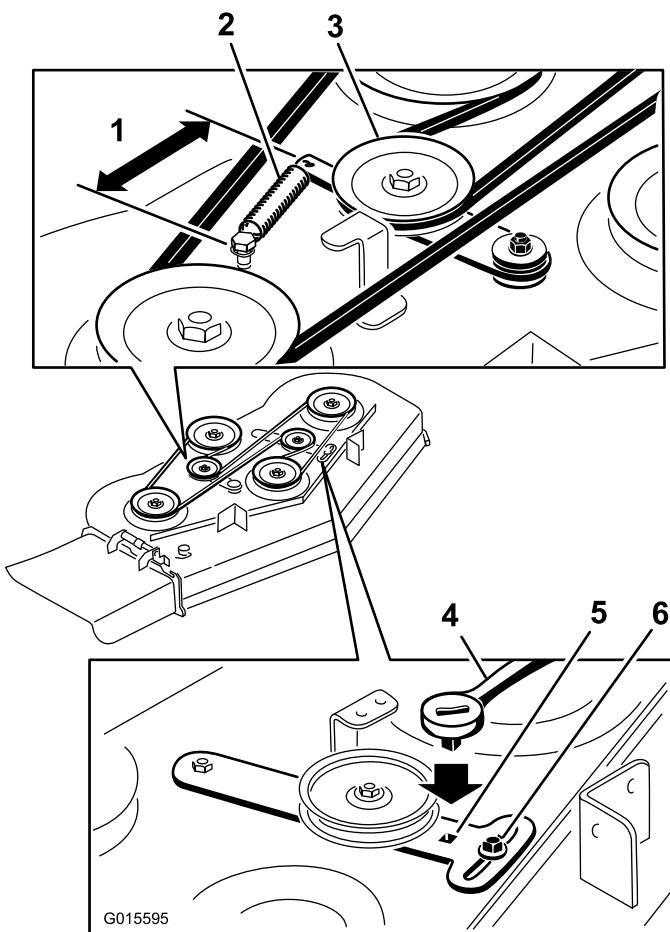
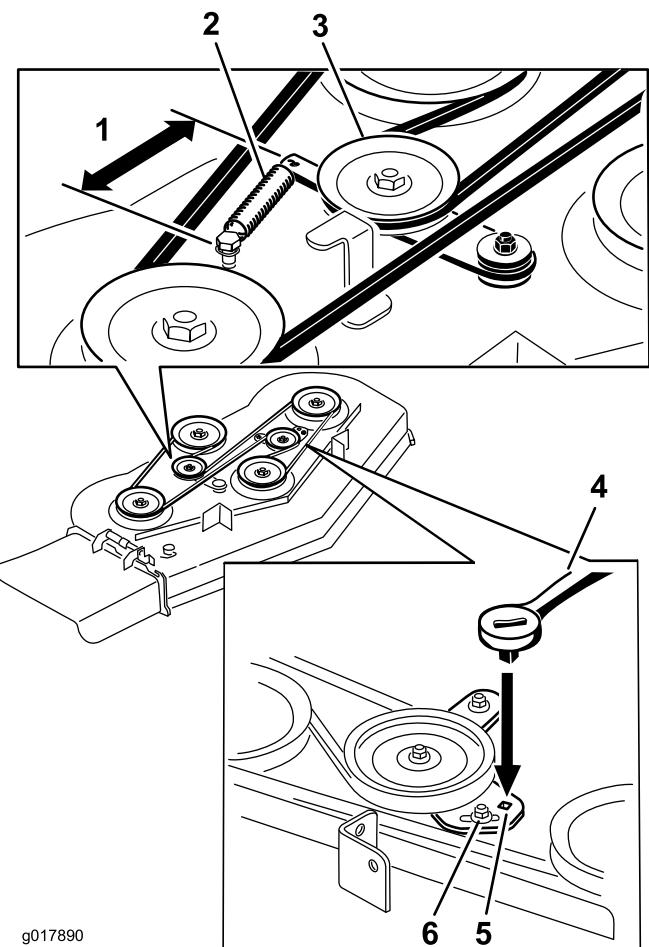

Figure 66
Figure 67
4. Loosen the front idler pulley by loosening the nut (Figure 66 and Figure 67).
5. Remove the worn mower belt (Figure 66 and Figure 67).
6. Install the new mower belt around the deck pulleys and clutch pulley (Figure 66 and Figure 67).
7. Using a ratchet in the idler arm, tighten the idler pulley until the spring is stretched 16.5 cm (6.5 inches) from hook to hook (Figure 66 and Figure 67).
8. Tighten the front idler pulley by tightening the nut (Figure 66 and Figure 67).